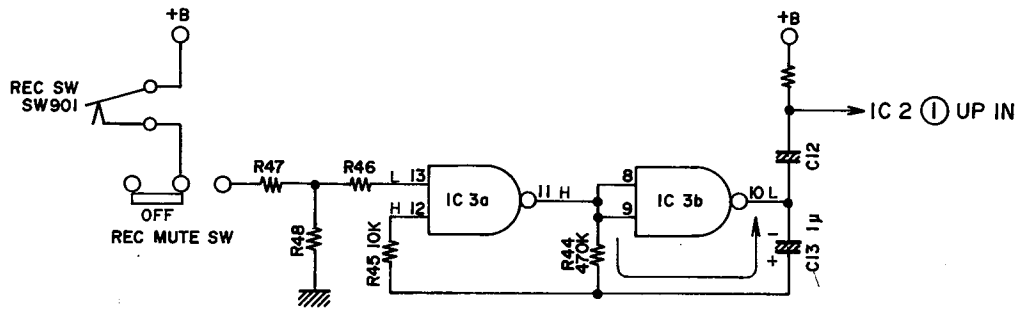

Fig. 10 Oscillation Stopped
#### 4. OSCILLATOR CIRCUITRY FOR REC TIME COUNT (Refer to Figs. 10 and 11)
When the Rec Mute button is not depressed, IC3a's input terminal ⑬ is "L" and IC3b's output terminal ⑩ is "L". C13 has been discharged as in Fig. 10 and IC3a's input terminal ⑫ is changed to "H" by this potential.